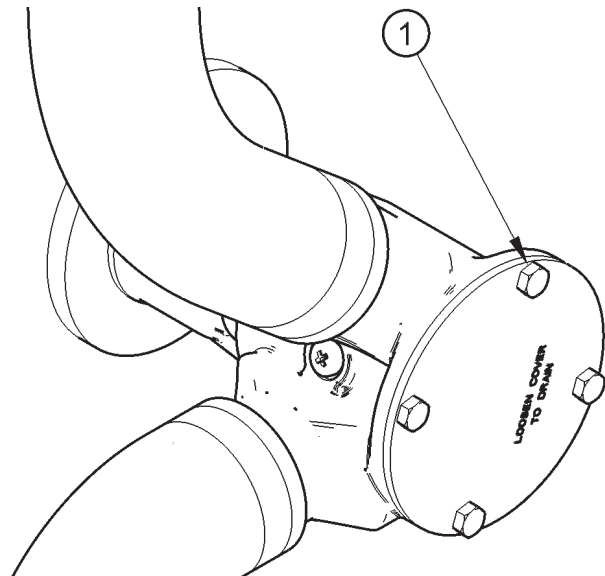

Figure 6
2. Release the four bolts (items 1 figure 6) which fasten the end plate of the auxiliary water pump and remove the plate. When the end plate of the auxiliary water pump is removed, some auxiliary water will flow from the pump.